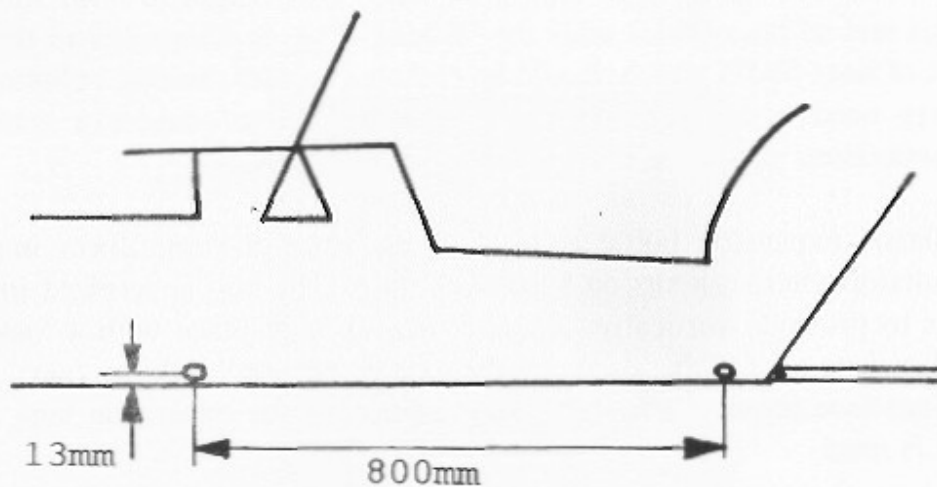

Figure 10A.9 Front Exhaust Bush Location
9.3 The side exit catalyst exhaust has an extra mount at the front of the silencer to support the catalyst. This mount uses the same type bracket and bobbin as the rear mount and is fitted as follows. There is a threaded bush in the chassis to which the front angle bracket bolts, which can be found 800mm forward from the rear exhaust bush, and 13mm up from the base of the chassis. This should be revealed with a pilot hole which can be expanded to suit the bolt, taking care not to damage the threads. See figure 10A.9
10.3 The plastic expansion bottle is located on top of the cruciform immediately behind the radiator where it sits on 5/16" x 3" bolt. The bolt is screwed into the boss in the chassis to protrude vertically, where it is locked in place with a lock nut. It is held by two brackets on the chassis secured to the expansion bottle by two 1/4" x 3/4" bolts and nylocs (see figure 10A.10.3). The position of the expansion tank should be adjusted so it is level.